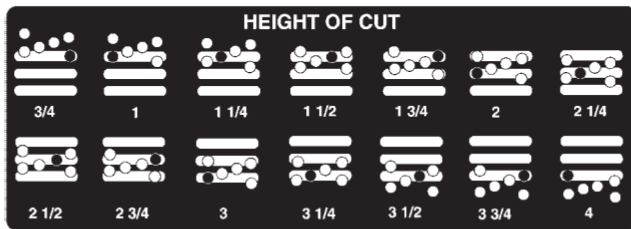

Figure 3
- Move chamber to desired height-of-cut and install spacer into designated height-of-cut hole and slot (Fig. 3).